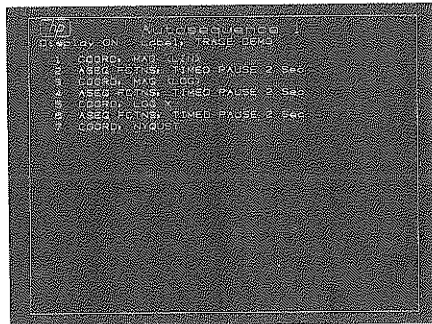

Figure 11-1
4. **View Label** *The label appears at the top of the Auto Sequence entry area, as shown in Figure 11-1, and on the Auto Sequence menu.*